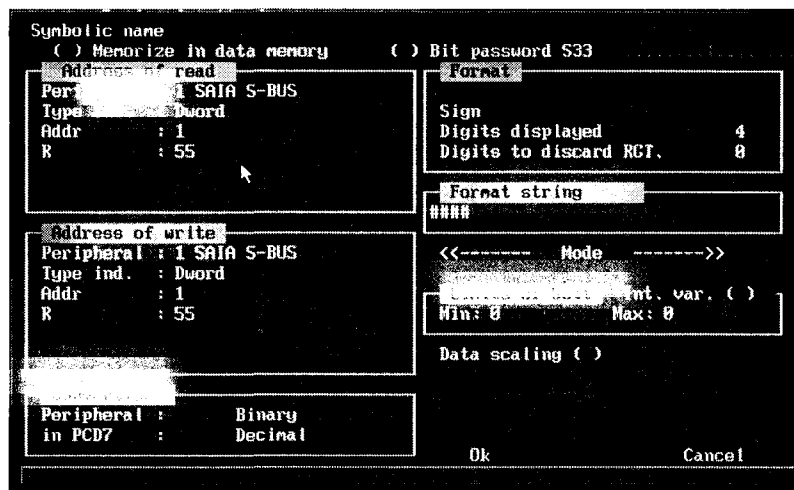

Fig 4.2.1
4. Position the various fields as you wish (see fig. 4.2.1).